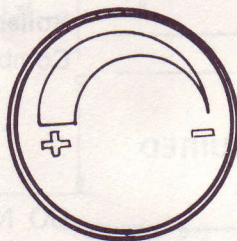

Fig. 8
- 12.7 When the fire is established, make a temporary air adjustment to clear any smoke. Leave the fire door open until the combustion chamber is dry. Modern chambers contain organic binder which must be baked out before final burner adjustments can be made. Allow at least 15 minutes firing to "dry" the chamber. When normal temperatures are reached, close the inspection (fire) door, adjust the draft and the air shutter for a clean fire. See Fig. 5 for OE-21 series. For OE-22 series, see Fig. 6 to adjust the air and lock it with side nut. Extra fine tuning can be achieved by dialing the knob (See Fig. 8).